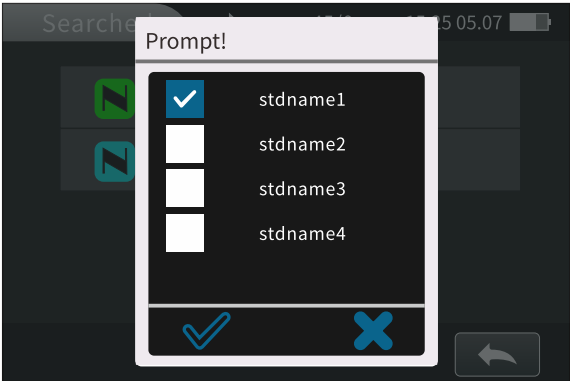

Figure 29 Searched Records List
- 3.The instrument will automatically execute a search across all standard records and list the matching standard records(Figure 29). Otherwise, it will prompt that the record does not exist and return to the search records menu.